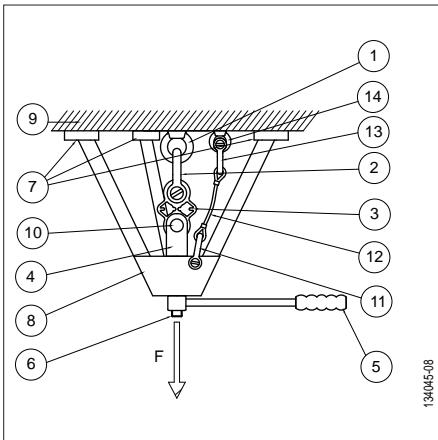

Fig. 6
- 1 manually-operated loaded device, tripod type (see fig. 6, section 4.2, page 12),
- 1 safety device to secure the loading device in the event of shearing of the anchor point tested, comprising of (see fig. 6, page 12):
- 1 safety sling of appropriate length (see fig. 6, sections 4.2 and 4.3, page 12),
DANGER: To test an anchor point using the TA test plate, the operator must use a manually activated tripod loading device specifically designed and sized for placing under traction load without risking the anchor point to be tested (fig. 6, page 12) or any other apparatus placed under a load in traction of the TA test plate especially designed and sized to be used in complete safety.
Refer to fig. 6 for the procedure detailed below.
All of the procedure described below relates to fig. 6.
- 1) Gradually increase the load by acting on the loading device (fig. 6, page 12, item 8). The operator must continuously observe the plate in order to stop the loading operation immediately on shearing of the 'S' section of the plate (fig. 9).
Refer to figure 6, page 12, for the procedure detailed below.